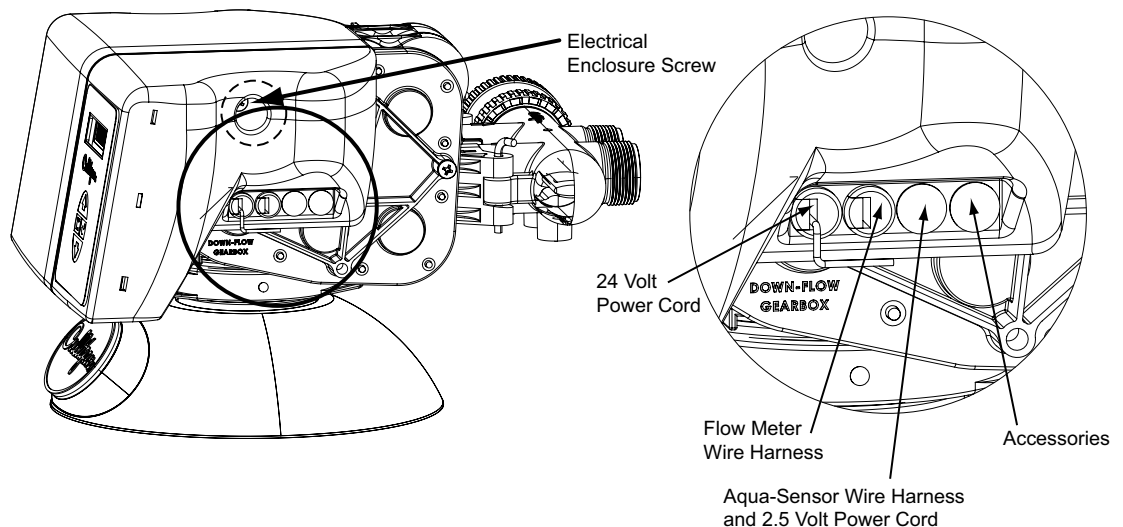
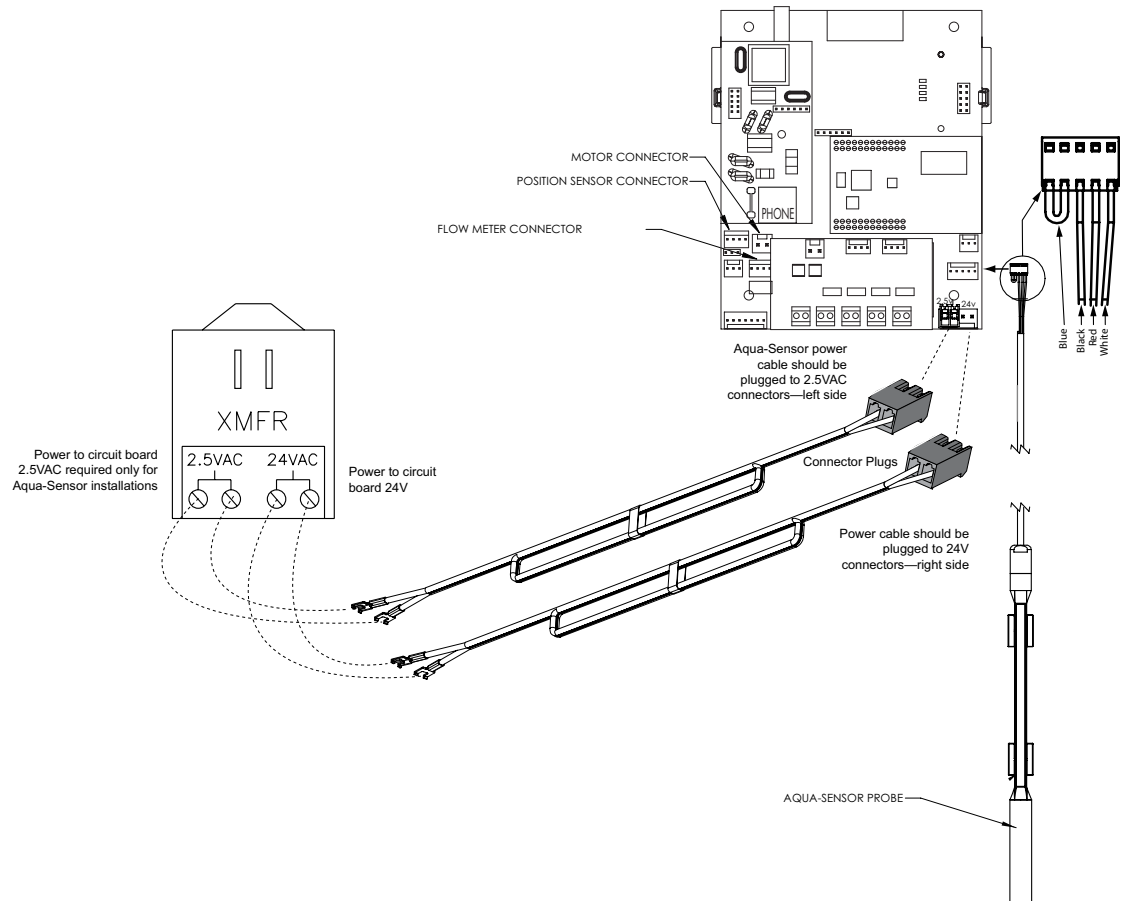

Figure 19. Circuit board connections.
Figure 22. 2.5 VAC Aqua-Sensor® power connection.
The 24 Volt power supply and flow meter wire harness is already connected to the circuit board. If no other circuit board connections are required proceed to the First Time Setup. Refer to the instructions below and Figure 19 to Figure 22 for connecting the Aqua-Sensor probe wire harness to the circuit board.
1. Remove the electrical enclosure from the control valve. First remove the electrical enclosure screw and then gently remove the enclosure from the control. Refer to Figure 19 and below instructions.
7. Insert the Aqua-Sensor 2.5 Volt power cord through the third hole on the enclosure. Insert the Aqua-Sensor sensor probe wire harness through the fourth hole on the enclosure. See Figure 19.
- d. Connect the other end of the power cord, with the spade terminals, to the two 2.5 VAC terminals on the transformer. See Figure 22.